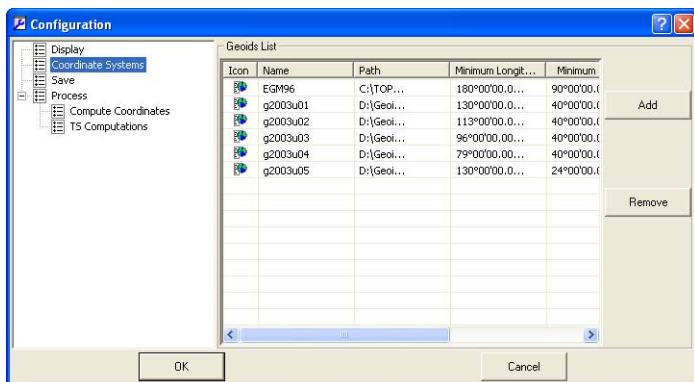

Figure 2-14. Added Geoids
5. Repeat these steps for any other geoids. The geoids will be listed in the right pane (Figure 2-14).